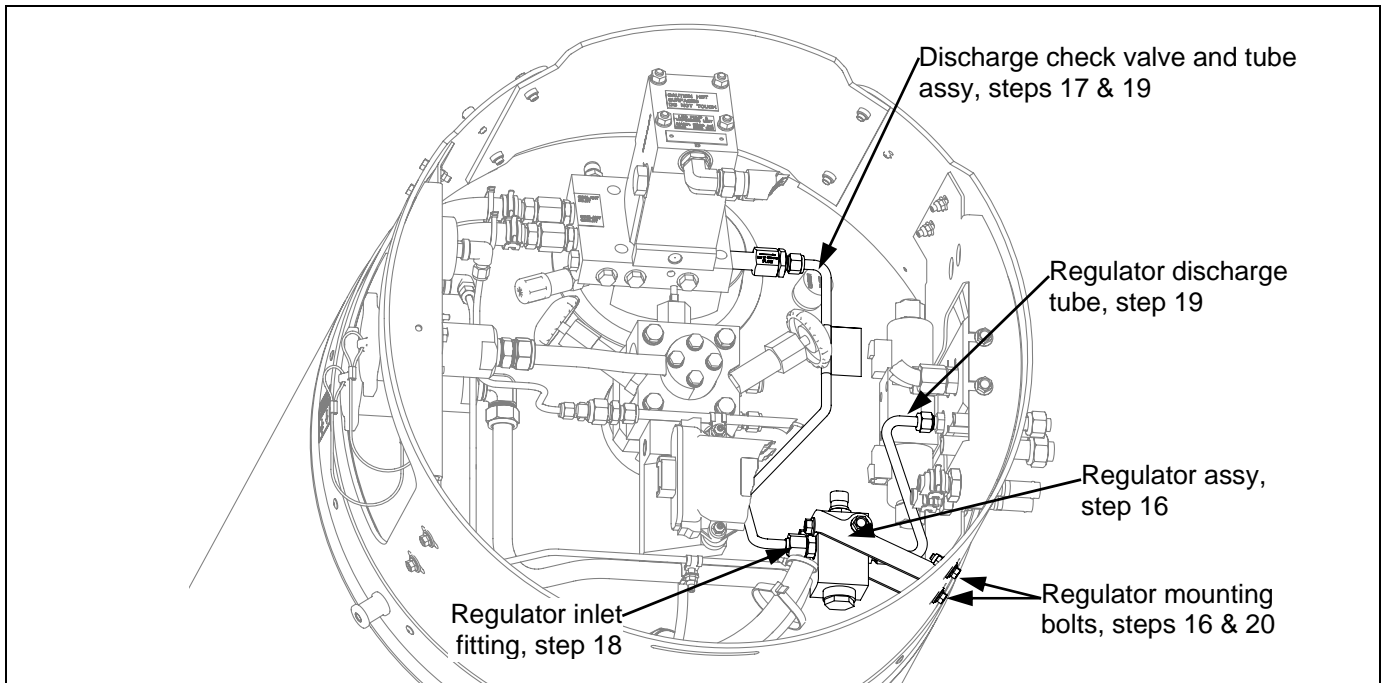

Figure 7: Installation location of regulator components and tube assemblies (LHS tank)
16. Fasten the regulator assembly loosely to the tank shroud using the provided mounting bolts, washers and nylok nuts (Figure 7).
17. Replace the check valve o-ring (black with yellow dot) with a provided disogrin (white) o-ring prior to installation. Then, loosely install discharge check valve and tube assembly between the LNG pump and the regulator assembly (Figure 7). Torque the check valve into the pump discharge port at **23 N·m (17 ft·lbs)**.
18. Tighten the LNG pump discharge tube to the regulator inlet o-ring face seal fitting **1/8th of a turn past finger tight** to ensure metal to metal contact (Figure 7).
19. Once the fit and alignment of the tubes, regulator assembly and check valve are acceptable tighten all tube fittings to **1/4 of a turn past finger tight** (Figure 7).
20. Torque regulator mounting bolts to **9 N·m (17 ft·lbs)** (Figure 7).